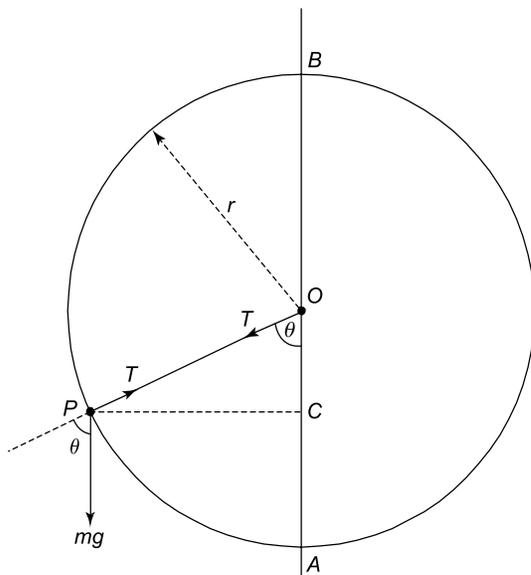

Figure 17.6 Motion in vertical circle
This problem is best solved by energy considerations. Consider a particle  $P$  rotating in a vertical circle of radius  $r$ , about a point  $O$ , as shown in Figure 17.6. Neglect losses due to friction.
**Problem 8.** Determine the minimum tangential velocity at  $A$ , namely,  $v_A$ , which will just keep the string taut at the point  $B$  for the particle moving in the vertical circle of Figure 17.6.